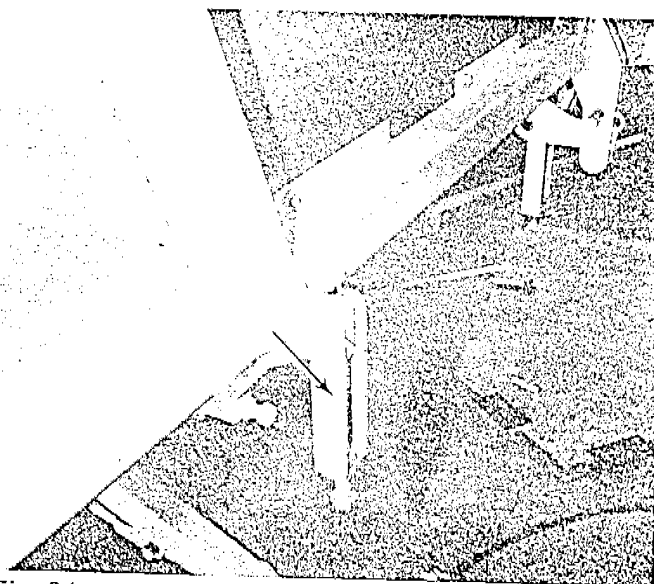

Fig. 34
- a. There are five hinge clamps on each wing tip. (Fig. 34)